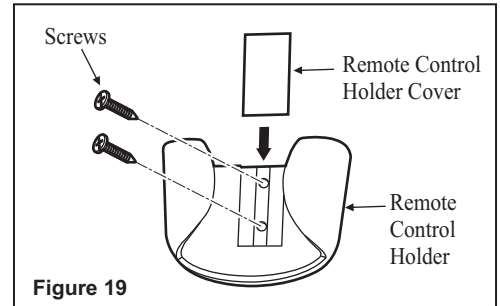

Figure 19
**Step 2.** Attach the remote control holder with the two remote control holder mounting screw provided. (Fig. 19)